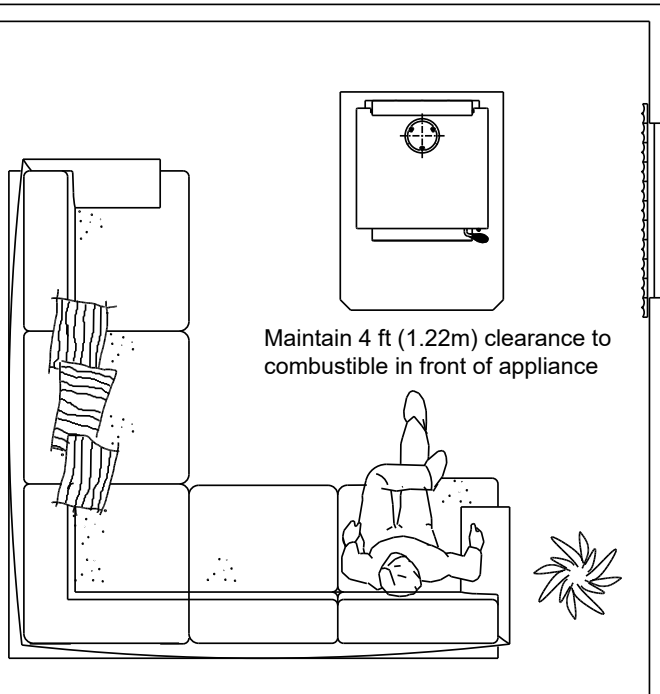

Figure 15.1
**NOTE:** Do NOT place combustible objects within 4 ft (1.2m) of the front of appliance (**Figure 15.1**).